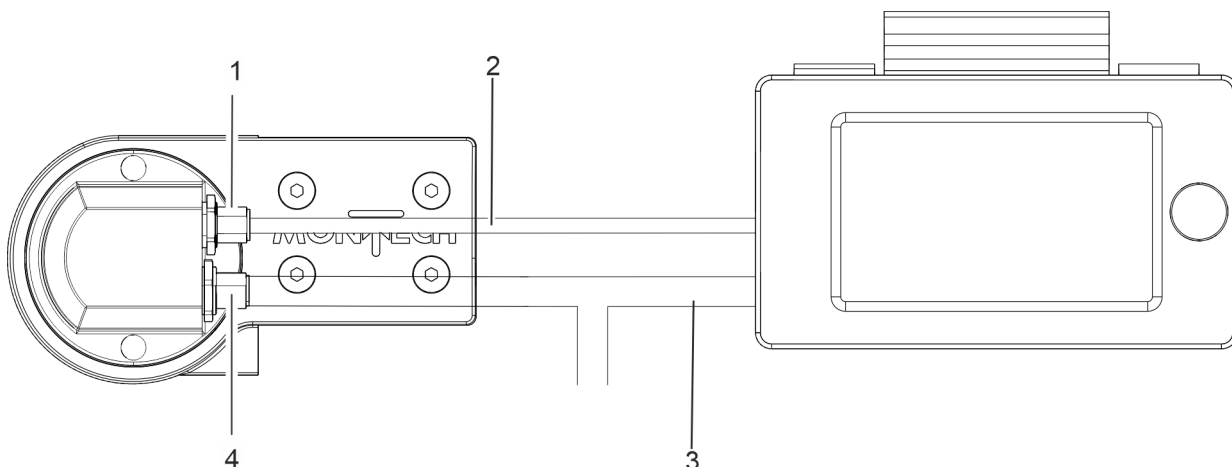

Fig. 63: Connecting MonTouch
3. ➤ Disconnect the existing cable at the connection of the drive unit (Fig. 63/1) and plug in the signal cable of the parameterization unit instead (Fig. 63/2).
4. ➤ Insert the power distribution cable of the parameterization unit (Fig. 63/3) into the power supply circuit. To do this, disconnect the existing cable at the drive unit connection (Fig. 63/4) and connect the power distribution cable of the parameterization unit instead (Fig. 63/3).
5. ➤ Connect the power cable from the conveyor to the power distribution cable of the parameterization unit (Fig. 63/3).